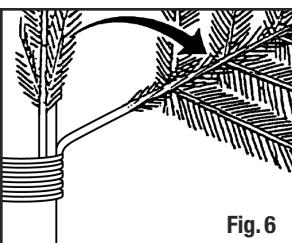

Fig. 6
- WRAPPED TREES:** Working your way up from the bottom, gently lower all branches from their upright setting by grasping the branch and pulling it downward (Figure 6). Each branch must be shaped to a natural position by spreading out the left and right tips away from the center tip (See Shaping Instructions on page 4). Continue to lower branches on upper section(s) in the same manner.